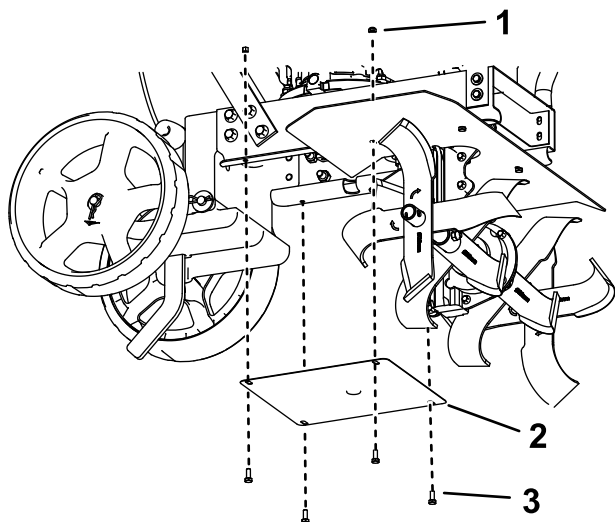

**Figure 26**
**Note:** If the tension is incorrect and you cannot adjust the jam nuts further, move the Z-bend end of the cable to the next hole in the drive-control lever as shown in Figure 26. If the tension is still incorrect, replace the belt.